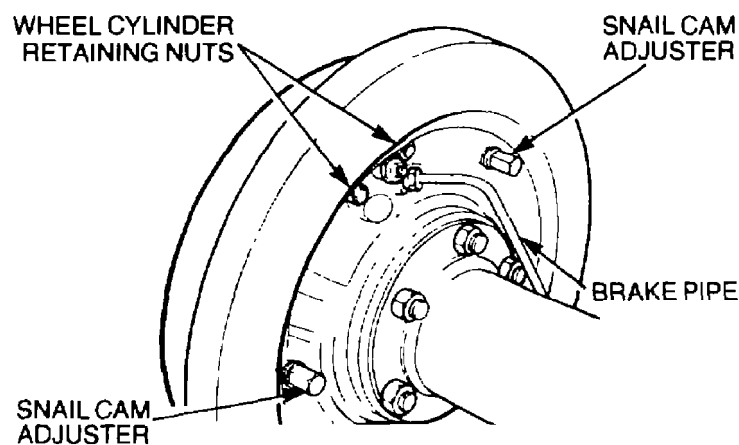

Figure 114 Wheel Cylinder Removal
- b. Remove the two retaining nuts and spring washers securing the wheel cylinder to the back plate (Figure 114). Discard the spring washers.